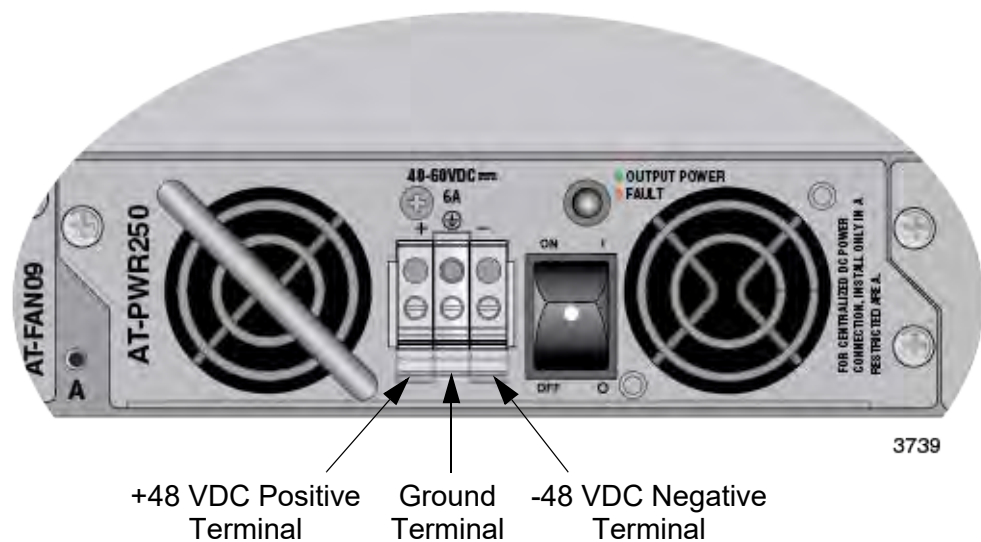

Figure 46. DC Terminal Block
3. Use the legend above the terminal block to identify the terminals. The terminals are **positive**, **power supply ground** and **negative**, from left to right, as shown in Figure 46.